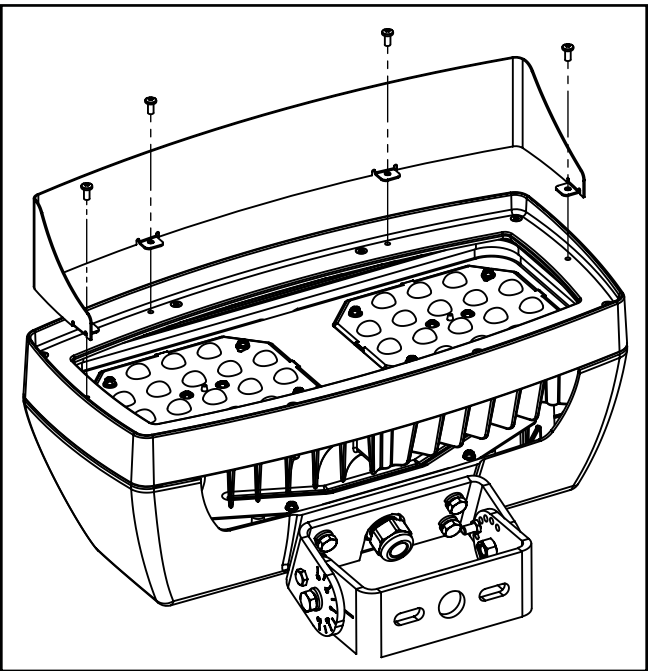

Figure 6.
Visor (Figure 6.)
- 1. Align visor on top of lens frame matching the six existing holes. (Figure 6.)
- 2. Tighten (4) 8-32 screws to the face of the fixture.